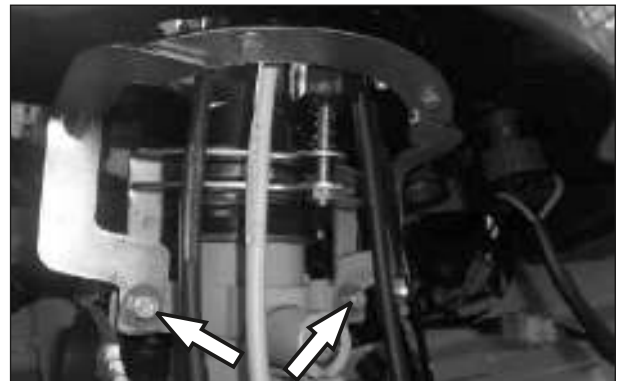

Fig. 2.103
- Loosen and remove 2 nos. hexagonal screws M6X20 along with punched washer (2 nos.) and spring washer (2 nos.) from damper handle bar(Fig. 2.103)